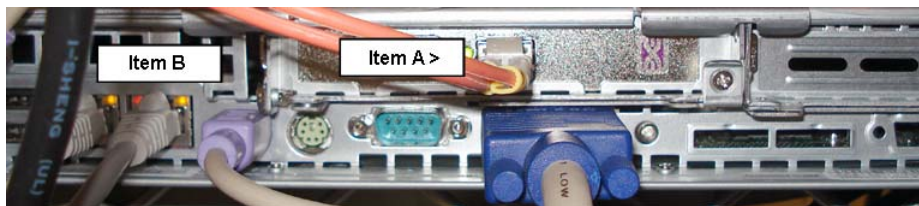

Figure 1: Back of the ER unit
- A. Plug the Fibre Channel cable into the slot on the upper middle section on the rear of the ER unit (see Figure 1, Item A).
- B. Plug one end of the CAT-5E crossover cable into the ER unit's LAN 2 port—the port to the right (see Figure 1, Item B).